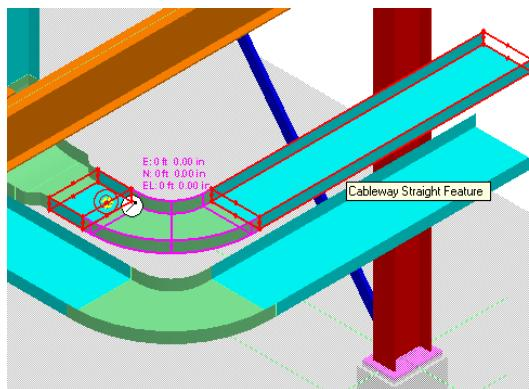

Figure 20: Cableway Straight Feature
2. Hold down the Shift-key and select the two **Straight Features** from the graphic view that you need to edit or use the **Fence Inside** option, as shown in the highlighted section of Figure 20.